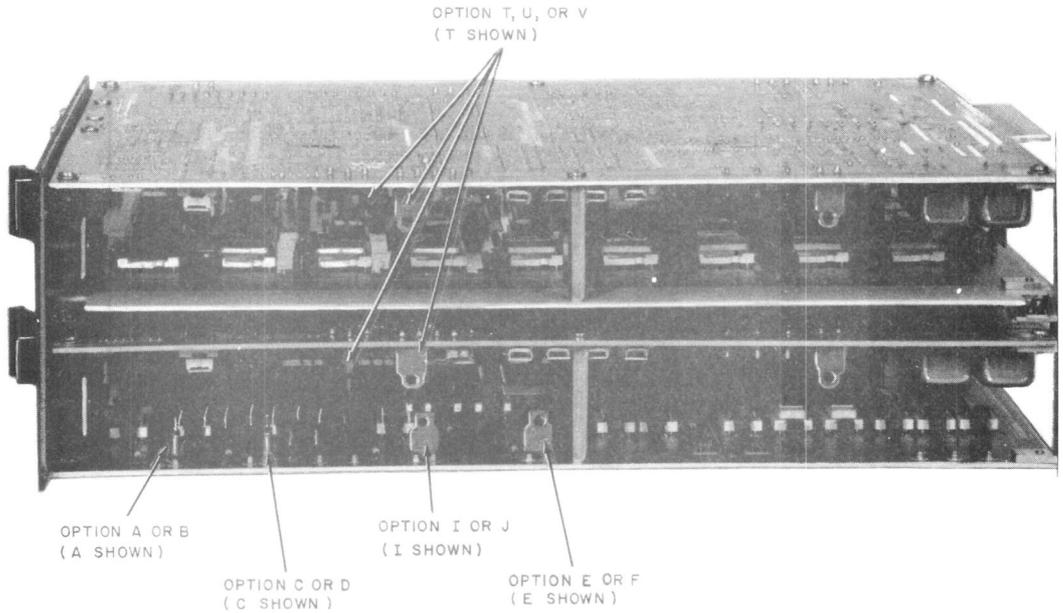

Fig. 7—Top View of DS 407C Showing Telco Option Plugs
*407C-L1 as applicable before installing the data sets in the data mounting.* Telco plug-type options which apply to DS 407C are illustrated in Fig. 7 and 8; plug, strap, and backplane wiring options are listed in Table A.